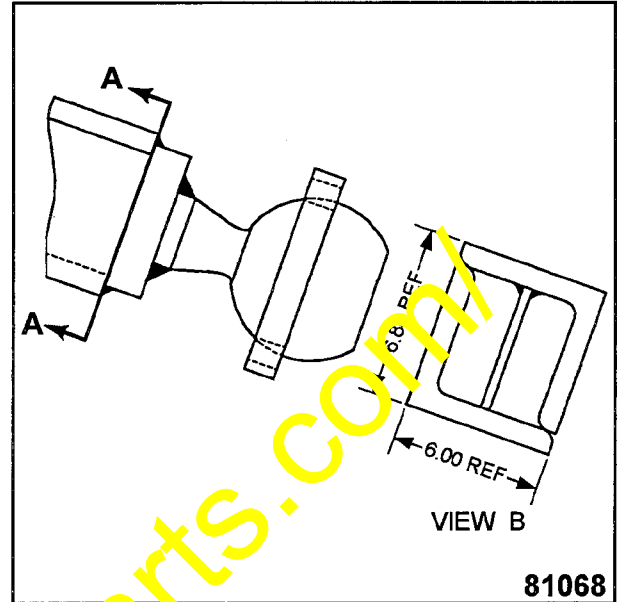

Figure 1
1. Carbon arc old style ball stud weldment from drawbar at A-A, Figure 1.